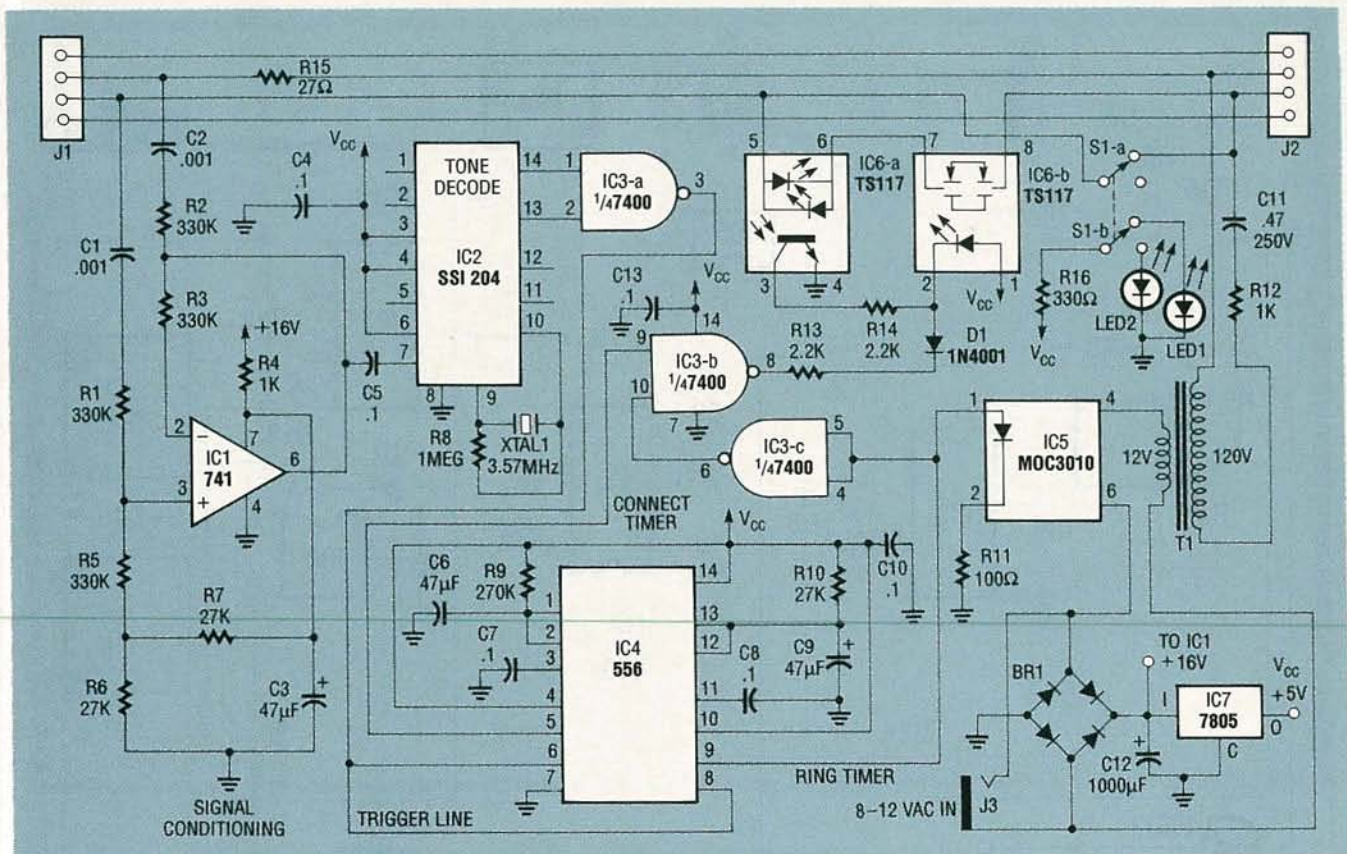

FIG. 2—SCHEMATIC for the Fax-Mate. Notice how it closely resembles the block diagram.
When working with the phone line, it is very important not to put any foreign signals on the line, and equally important not to load the line except when equipment is connected to communicate. Looking at the schematic in Fig. 2, the upper path is the data path and the lower path monitors the incoming line waiting for a # *Touch-Tone*. As designed, the Fax-Mate will not respond to any other voice or data signal. IC1 is the phone-line monitor buffer, and it conditions incoming tones for the decoder, IC2. C1 and C2 prevent the nominal 48-volts DC on the phone line from overloading the op-amp, and resistors R1 and R2 limit the current on an incoming ringing voltage. The ratio of R3/R2 sets the gain of IC1 to unity, and voltage-divider R6/R7 biases IC1 midway between its supply voltage and ground. That allows the op-amp to operate from a single supply.
In Fig. 2, one side of the telephone line enters J1 and passes through R15 to the fax jack, J2. Resistor R15 balances that side of the line against the small resistance that IC6 inserts into the lower loop. (By the way, the Fax-Mate is not dependent upon phone-line polarity, but the PC layout does adhere to tip-and-ring standards in and out of the project.)
Selecting the B position allows you to watch cable on channel 3. To record a cable program while watching another channel is no problem if your TV is cable-ready. Begin recording your program, then flip the A/B switch to position A. Use your TV remote control to select the desired channels on your TV tuner. If your TV set is not cable-ready, then that setup won't work; but don't despair, maybe the setup in Fig. 2 can help you.
- Figure 2 shows the A/B switch